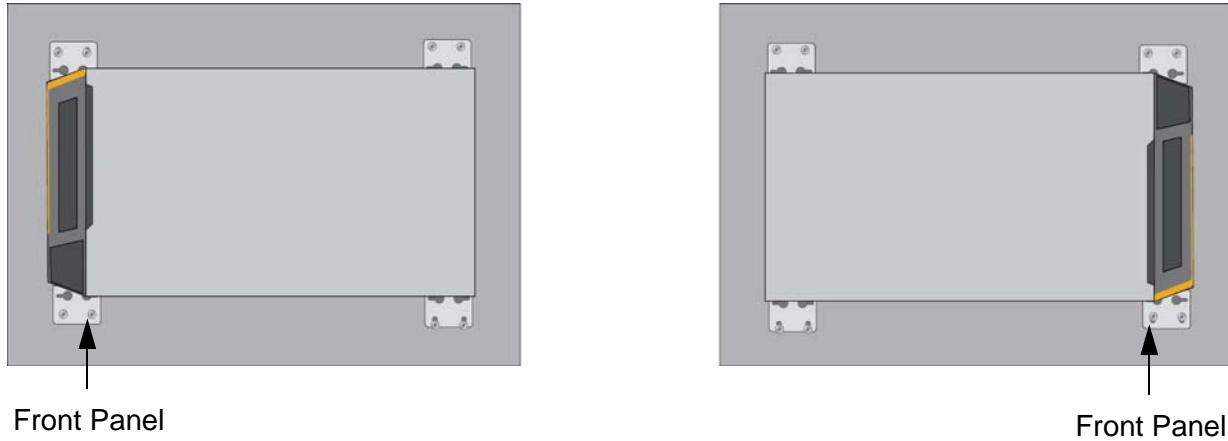

Figure 33. Positions of the Switch on the Wall
You can install the switch on a wall with the front panel on the left or right, as shown in Figure 33. You should not install it with the front panel on the top or bottom.
- ❑ Position the switch so that the front panel is either on the left or the right. Refer to Figure 33 on page 72. You may not install the switch with the front panel facing up or down.